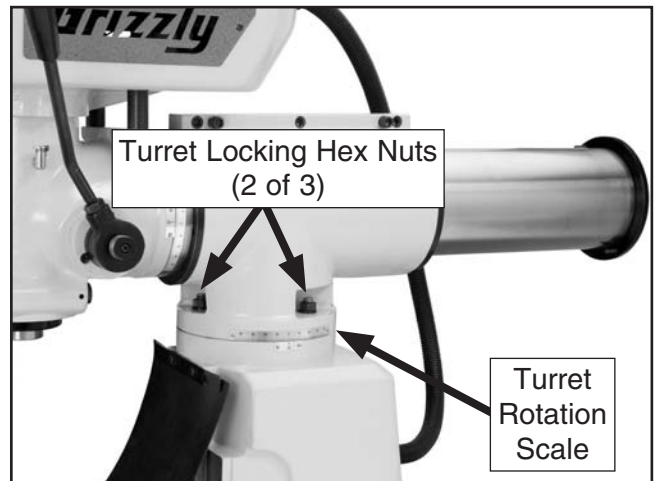

Figure 27. Turret rotation locking hex nuts (2 of 3 shown).
2. Loosen the three locking hex nuts on the turret (see **Figure 27**).